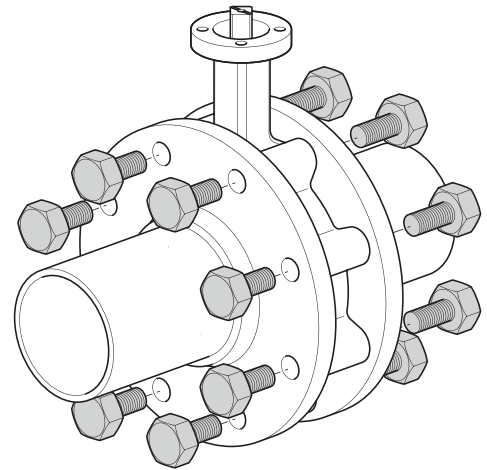

Fig. 31.
- b. Install all bolts between the valve and the mating flanges. Hand tighten bolts as necessary. (Fig. 31)